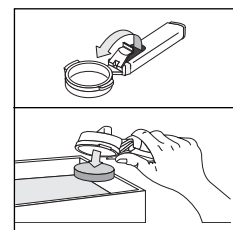

fig. 13
7. To remove the used coffee lock the filter with the built-in lever and let the coffee fall out by knocking the over turned filter holder (fig. 13).